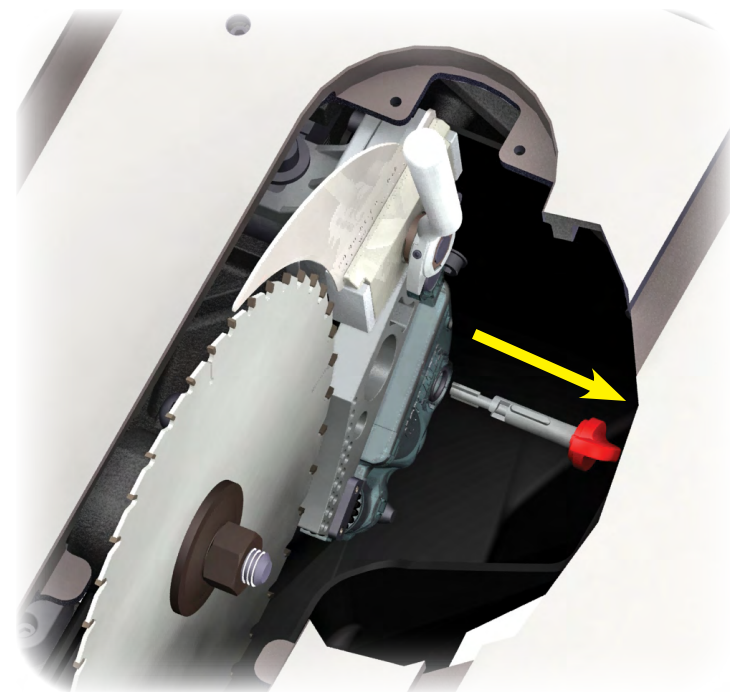

Fig. 78
To remove the cartridge, first remove the cartridge key by turning it 90° clockwise and then pulling it away from the cartridge (see Fig. 78). Set the cartridge key aside for use with the new cartridge.
If the cartridge has been activated, the brake pawl typically will be locked onto the blade or dado set. As a result, it is usually easiest to remove the blade and the brake cartridge together. To remove the cartridge and blade together, first remove the blade nut and washer, and then remove the cartridge key by turning it 90° clockwise and pulling it away from the cartridge (see Fig. 78). You can remove the blade and brake cartridge simultaneously by alternately moving the blade and then the cartridge to the right to “walk” them off the arbor and pins. Often you can “walk” them to the right by hand, but if not, you can use a blade wrench as a lever. To do this, place one end of the wrench between the blade and the side of the arbor block, and then push the blade a short distance away from the arbor flange (see Fig. 80). Then place the end of the wrench between the brake pawl and the cartridge mounting bracket to pry the cartridge away from the arbor block a short distance (see Fig. 81). Only move the blade and cartridge a short distance each step, for example, a distance equal to one or two threads on the arbor. Otherwise the brake cartridge may bind on the arbor and pivot pin. Repeat these steps to walk the cartridge and blade off. A significant force may be needed to pry the cartridge off the mounting pin if the brake pawl deformed and pinched the pivot pin when it stopped the blade.
Next, insert the cartridge key into the hole in the cartridge housing (see Fig. 78 on page 60). The key shaft has a ridge that must be aligned with a channel in the hole. As a result, the key can only be inserted into the hole when the red handle is pointing toward the brake pawl. Insert the key fully into the hole and rotate the key 90° counter-clockwise to lock the cartridge in place. The key will not rotate unless it is fully seated against the side of the cartridge housing and the cartridge housing is pressed against the cartridge mounting bracket.